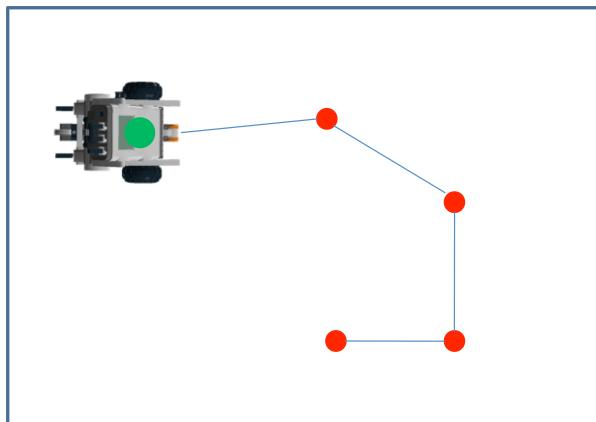

Figure 3. Multiple points
- 2.5. Modify your implementation to allow multiple path points, see Figure 3. **(DEMO)**